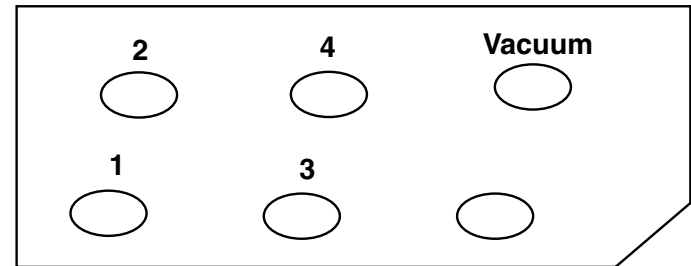

Figure B-1: Internal Manifold (Front/Top Edge)
- Connect tube "A" exiting top of flowmeter to vacuum supply (See *Figure B-1*)